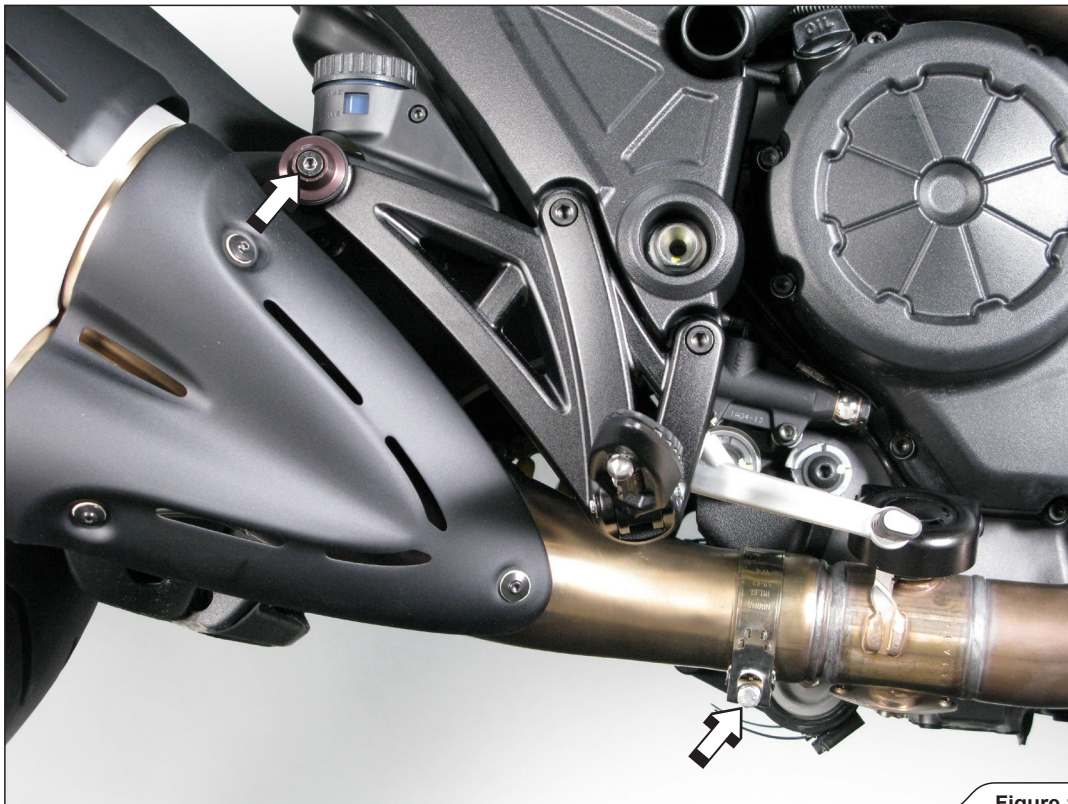

Figure 1
2. Unscrew the marked muffler hanging bracket bolt and untighten the metal clamp at the muffler pipe-collector connection (**Figure 1**). Carefully remove the muffler off the motorcycle.